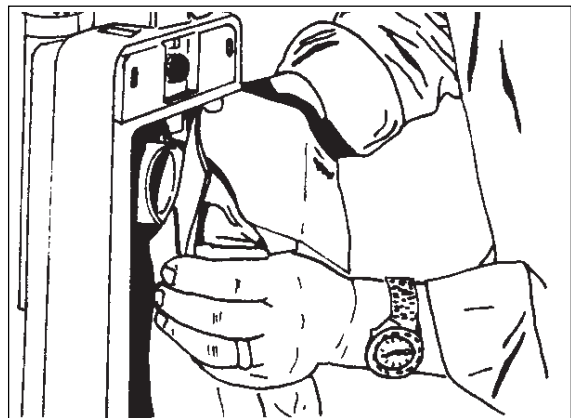

Figure 3
- c. Put the opening in the cardboard inlet over the bag adapter. See figure 3.